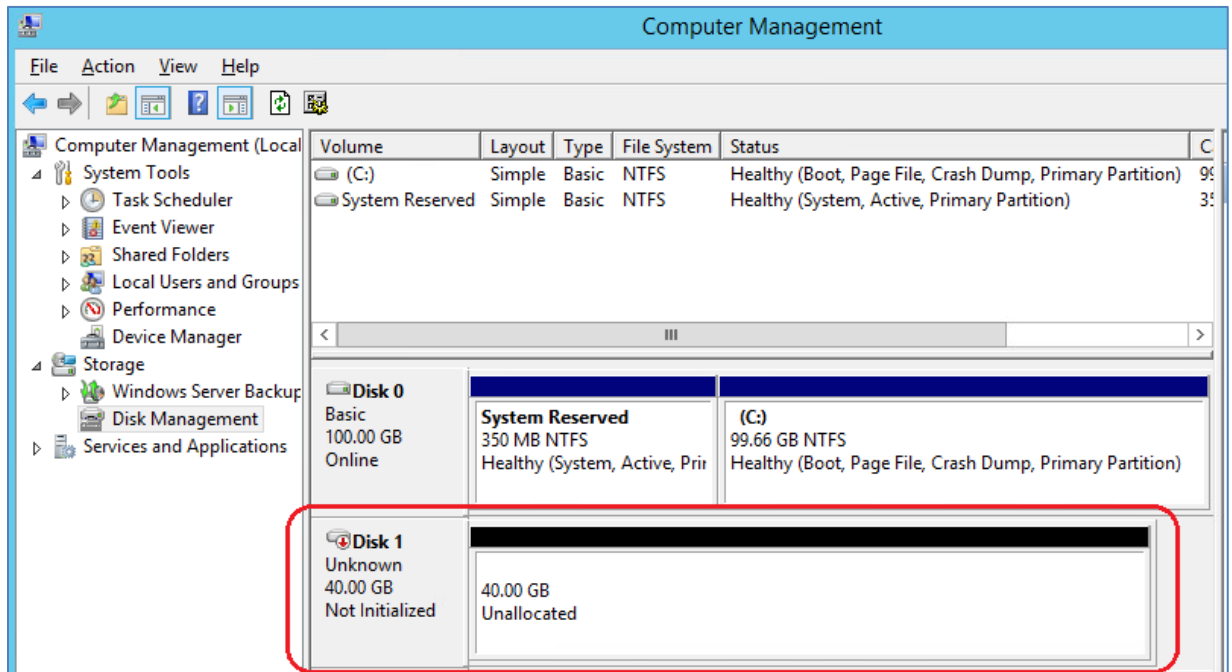

Figure 31 Windows Server Disk Management utility
4. The new hard disk appears in the list (**Disk 1** in Figure 31).